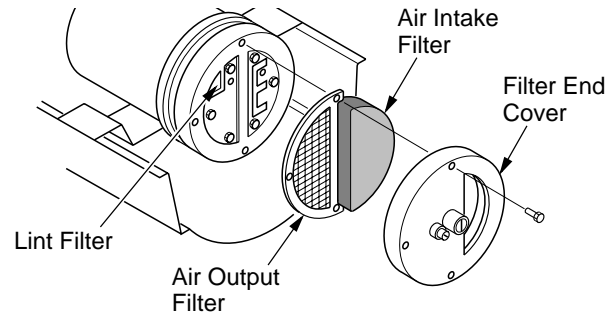

Figure 10 - Air Output, Air Intake, and Lint Filters, 70,000 Btu Units
2. Remove filter end cover screws using 5/16" nut-driver (see Figure 10 or 11).